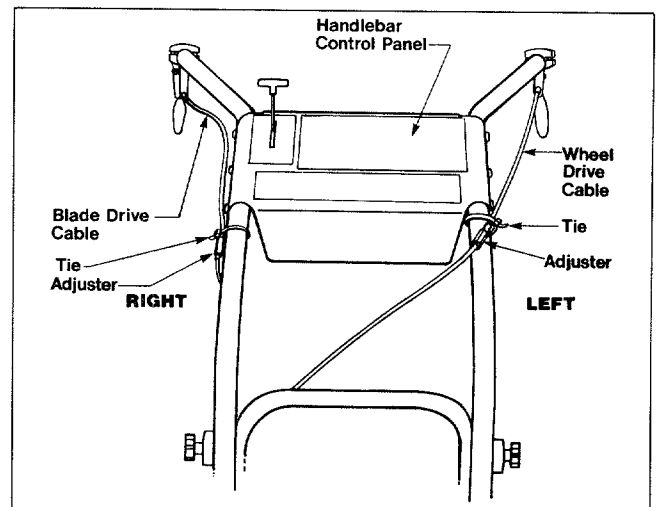

Figure 2-10: Attaching the tie straps (standard start models only).
1. On the right-hand handlebar, loop a tie strap (serrated side faces in) around the handlebar, the blade drive lever control cable and the throttle cable. Make sure that the strap is located ABOVE the adjuster assembly on the control cable. See Figure 2-10. Tighten the strap and trim off any excess length.